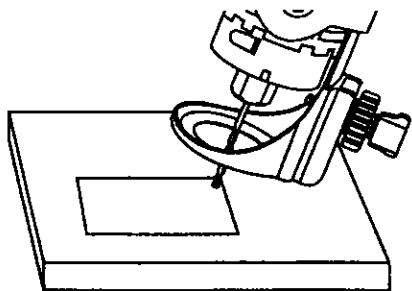

Fig. 6
5. Rest the edge of the sole plate on the workpiece with the bit at an angle of about 45° (see Fig 6).